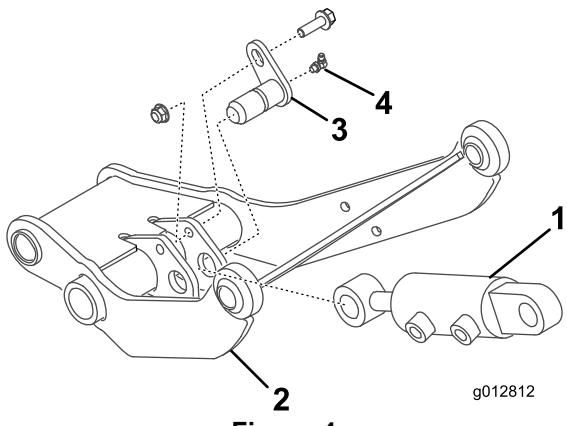
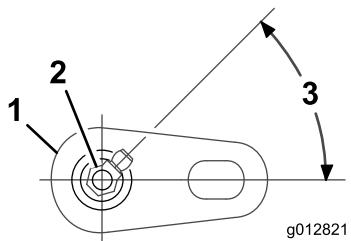

Figure 4
Figure 5
5. Mount the rod end of the hydraulic cylinder to the lift arm with a pivot pin (Figure 4).
6. Secure the pivot pin to the lift arm with a screw (3/8 x 1-1/4 inch) and a flange nut (3/8), positioning as shown in Figure 4.
7. Thread a 90 degree grease fitting into the end of the pivot pin (Figure 4). Position the grease fitting as shown in Figure 5.